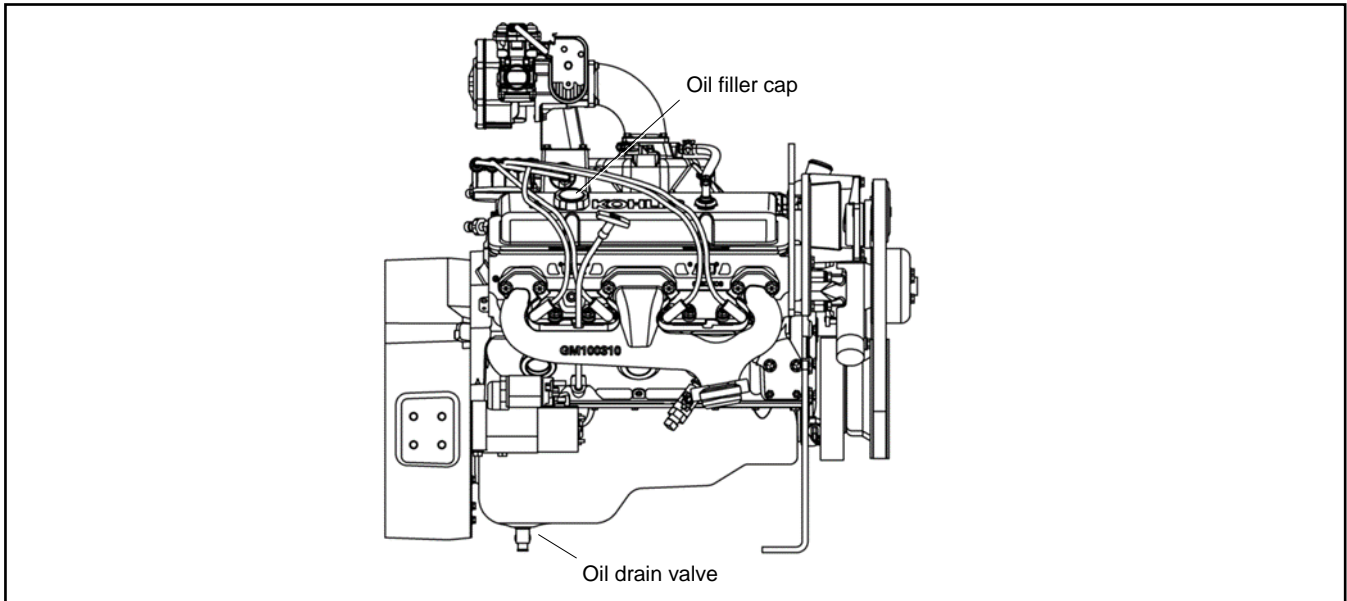

Figure 13 Oil Fill and Drain Valve Location
2. Place a drop cloth and collection container beneath the oil drain valve. See Figure 13.